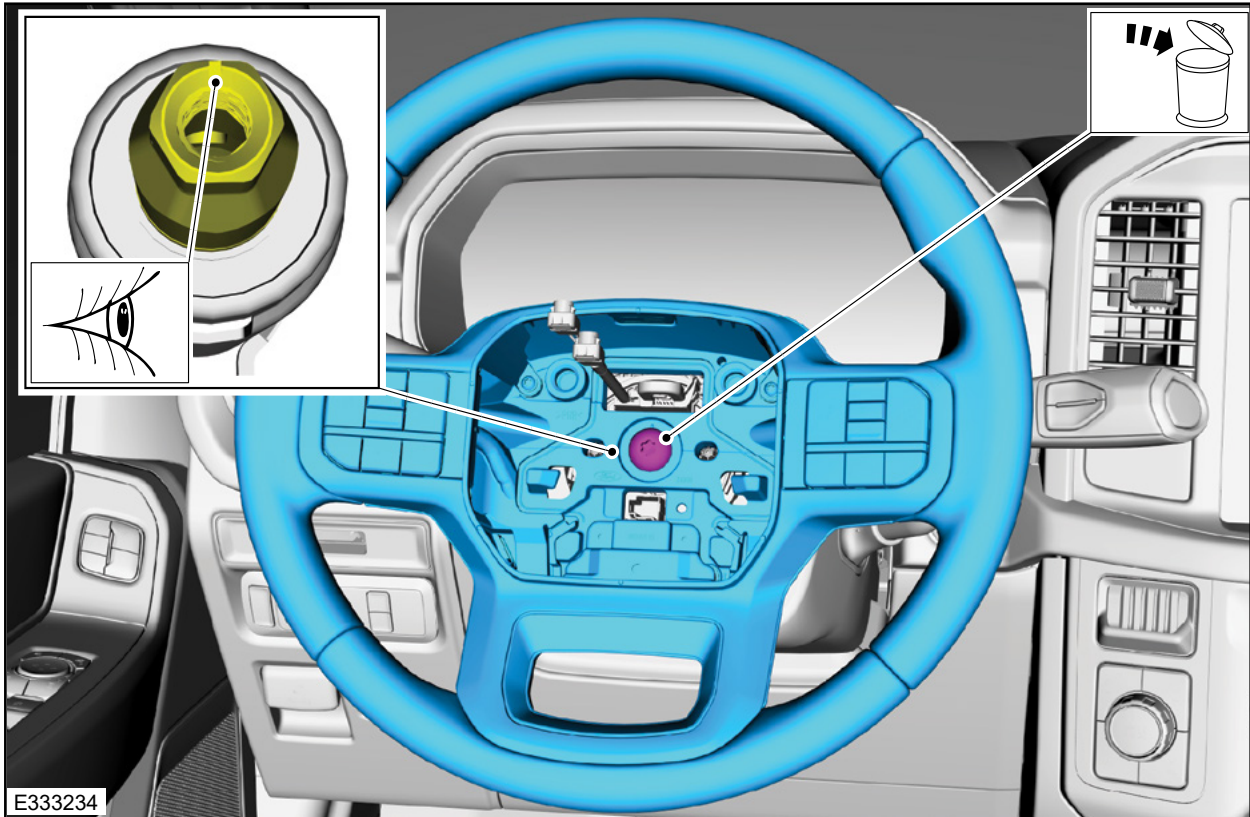

FIGURE 12
3. Remove and discard the steering wheel bolt and remove the steering wheel. See Figure 12.